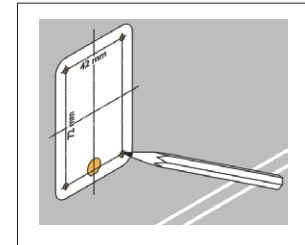

Fig. 2
- 2 - Mark the location of the mounting holes using the drilling template supplied with the photo eyes ( Fig. 2);